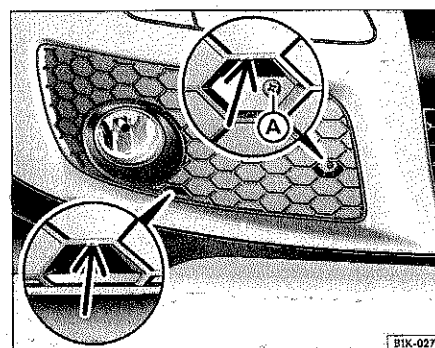

Fig. 50 In the right front bumper: removing the cover.
- Remove the Philips head screw ⇒ fig. 50 ④